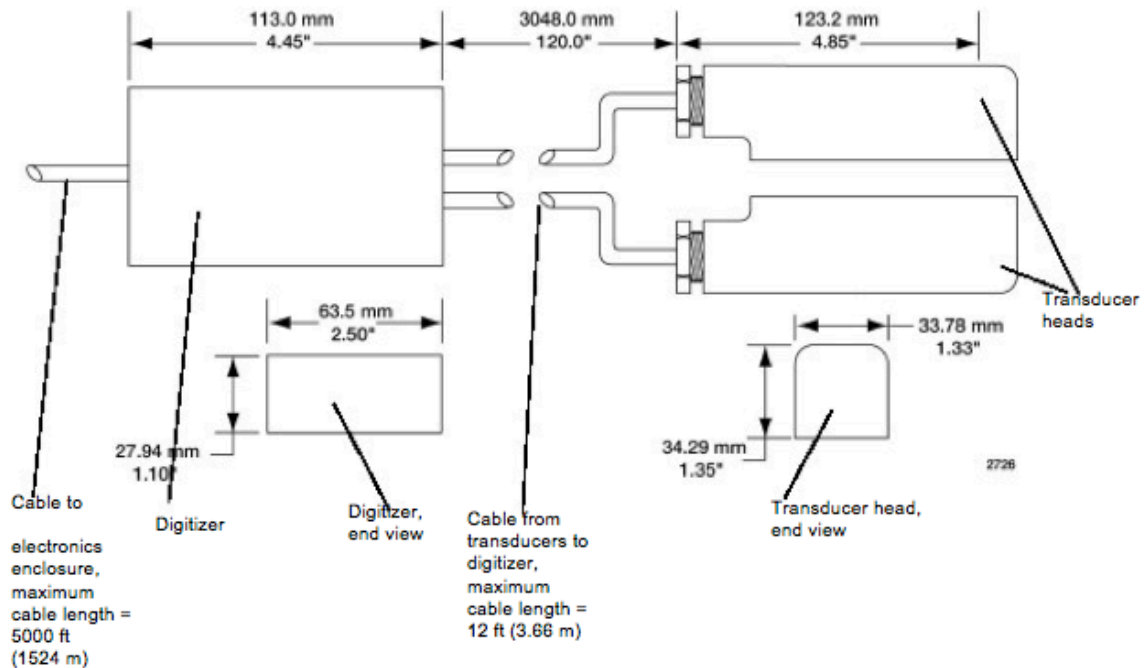

Figure 4-3. Dimensions of clamp-on Doppler
Dimensions	• Transducer heads: 4.85"(L) x 1.33"(W) x 1.35"(D) (123 mm x 33.8 mm x 34.3 mm)  Note: See <a href="#">Figure 4-3 on page 4-8</a> for the dimensional illustration